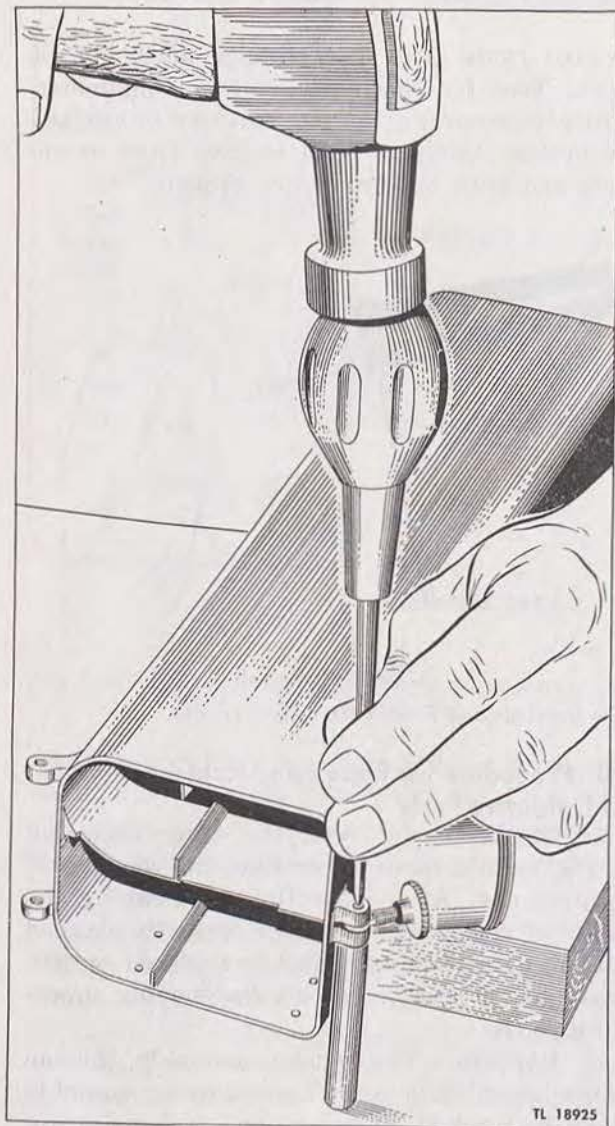

Figure 29. Removal of hinge pin, Radio Receiver and Transmitter BC-611-(*).
f. HOUSING ASSEMBLY. A stripped thread on the hinge pin support may be repaired by drilling and reaming the support and inserting a threaded bushing. The hinge pin is tapered and must be driven out in direction as shown in figure 29. The lug on the housing must be properly supported both during removal and replacement of hinge pin.